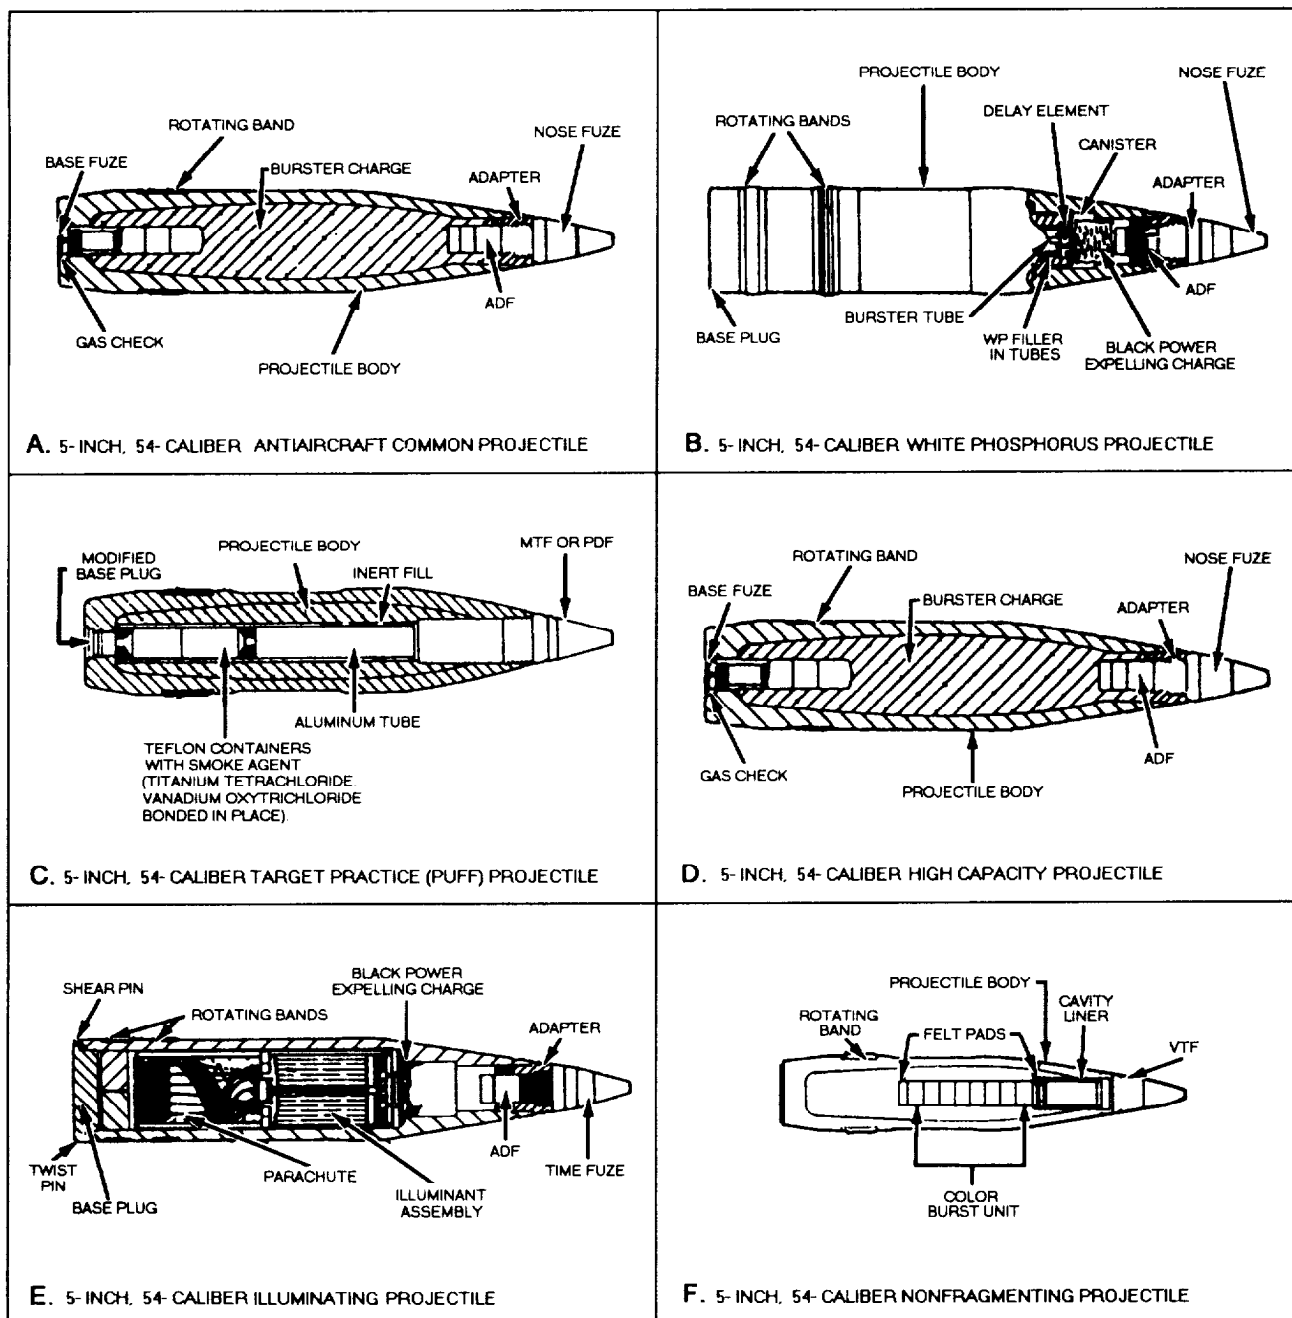

Figure 6-3.—Common projectile types.
Projectiles are also classified by their tactical purpose. The following are descriptions of some of the common projectile types (fig. 6-3).
**ANTIAIRCRAFT (AA).**—Antiaircraft projectiles are designed for use against aircraft; they have no base fuzes. Otherwise, they are substantially the same as the high-capacity (HC) projectiles described below.
**ANTIAIRCRAFT COMMON (AAC).**—Antiaircraft common projectiles are dual-purpose projectiles combining most of the qualities of the AA-type with the strength necessary to penetrate mild-steel plate (fig. 6-3, view A). However, AAC projectiles do not have the penetrating ability of common projectiles. The type of fuzing will depend on the use. Fuze threads are provided in the nose and in the base. AAC projectiles are normally equipped with a mechanical time fuze (MTF) and an auxiliary detonating fuze (ADF). Dual-purpose action is accomplished by a time setting for air burst or by setting MTFs on “safe” or for a time longer than flight-to-target to permit the base detonating fuze (BDF) (delay) to function for penetration. By substituting a point detonating fuze (PDF) for the MTF, you can convert these projectiles to high-capacity for surface burst.
**CHEMICAL.**—Chemical projectiles may be loaded with a toxic, harassing, or smoke-producing agent. Of the smoke agents, white phosphorous (WP) is the most frequently used. WP projectiles (fig. 6-3, view B) are designed to produce heavy smoke and, secondarily, an incendiary effect. The small WP containers are expelled and then scattered by a delayed action burster charge that is ignited by a black powder expelling charge. Other chemical loads are dispersed in a similar manner.
**PUFF.**—Puff projectiles (fig. 6-3, view C) are nonexplosive projectiles used as practice (spotting) rounds. They are designed to produce dense smoke clouds approximating those of high-explosive rounds.
**HIGH CAPACITY (HC).**—High-capacity projectiles are designed for use against unarmored surface targets, shore installations, or personnel. They have a medium wall thickness and large explosive cavities.
Large HC projectiles (fig. 6-3, view D) are provided with an auxiliary booster to supplement the booster charge in the nose of the main charge. With threads in both the nose and base, HC projectiles may receive a variety of fuzes or plugs to accomplish different tactical purposes. An adapter ring (or rings) is provided on the nose end of most HC projectiles to allow installation of point detonating fuses (PDFs) or nose plug and auxiliary detonating fuses (ADFs) with different size threads. An adapter is removed for larger fuzes. HC projectiles are
**ILLUMINATING (ILLUM).**— Illuminating projectiles (fig. 6-3, view E) are made with thin walls. Each contains a time fuze, an ADF, a small black powder expelling charge behind the ADF, an assembly consisting of a pyrotechnic star or candle with a parachute, and a lightly held base plug. The time fuze serves to ignite the expelling charge. Explosion of the
**VARIABLE TIME NONFRAGMENTING (VT-NONFRAG).**—VT-NONFRAG projectiles (fig. 6-3, view F) are loaded to avoid rupturing the body and spreading fragments when the fuze functions; however, sometimes the projectile ogive breaks up into low-velocity fragments. They are designed for use in anti-aircraft target practice, particularly against expensive drone targets, for observing the results of firing without frequent loss of the drones. These projectiles have fillers of epsom salts or other inert material to give the projectile the desired weight. A color-burst unit, consisting of pellets of black powder and a pyrotechnic mixture, is placed in a cavity drilled in the center of the inert filler. The color burst is ignited through the action of the nose fuze and the black-powder pellets. The color-burst unit may be one of several colors that exits through the fuze cavity and ruptured projectile.